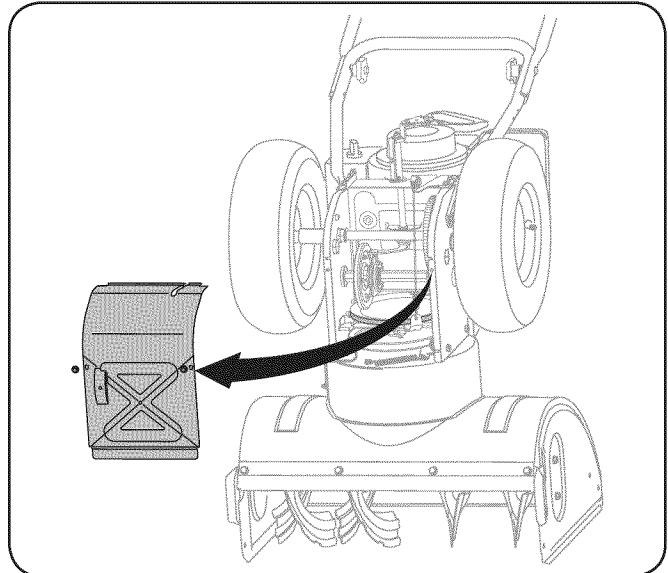

Figure 7-3
2. Remove the frame cover from the underside of the snow thrower by removing four self-tapping screws which secure it. Refer to Fig 7-3.
4. Remove the frame cover from the underside of the snow thrower by removing four self-tapping screws which secure it. See Fig 7-3.
- Remove the frame cover from the underside of the snow thrower by removing four self-tapping screws which secure it. Refer to Fig. 7-3.